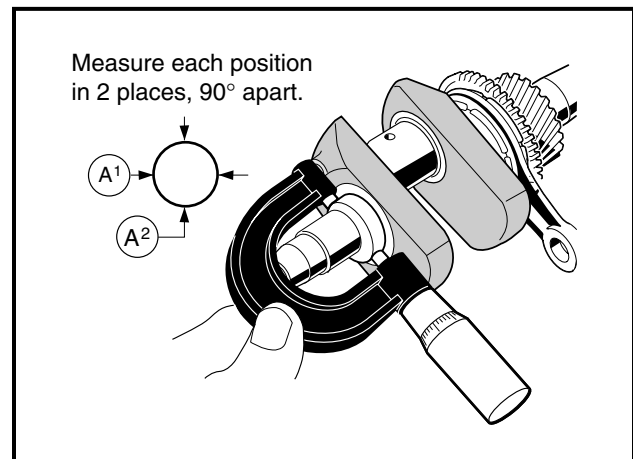

Figure 3-78 Measure Link Rod Journals
6. Use a micrometer to measure crankshaft link rod journals at several points (Figure 3-78, Page 3-36).